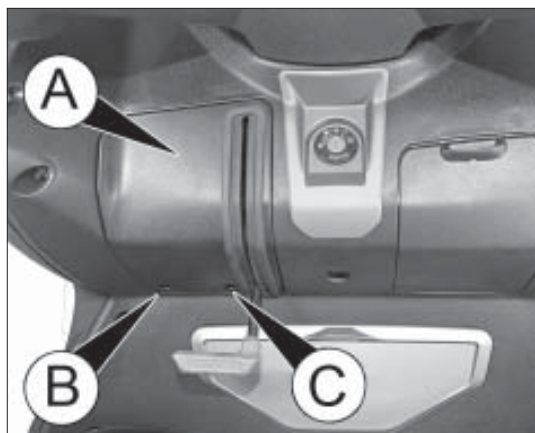

fig. 2
- remove cover A fig. 2 by unscrewing screws B and C;